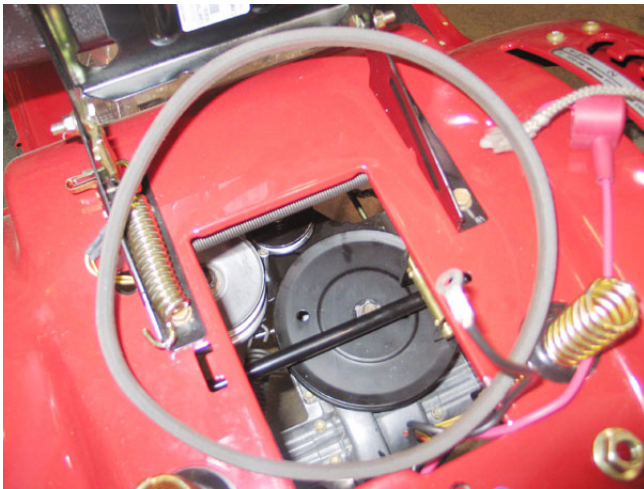

Figure 11.7
- 11.7. Maneuver the upper (rear) belt from under the transaxle pulley, and remove it. See Figure 11.7.